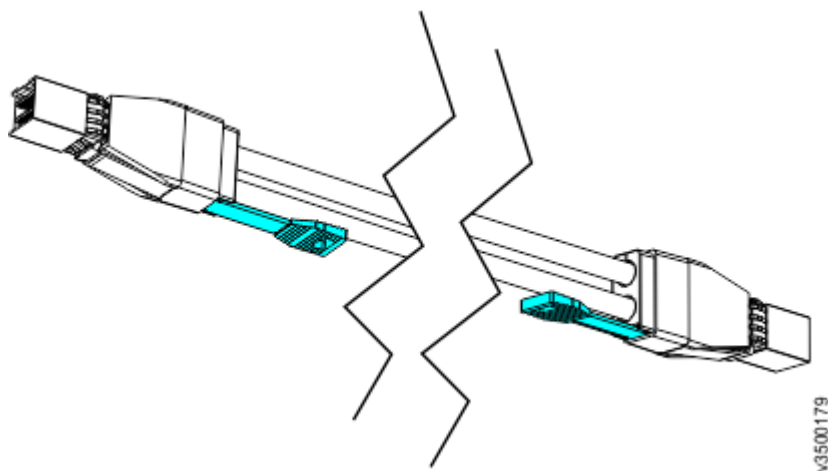

Figure 136. Mini SAS HD to Mini SAS HD cable
- Mini SAS HD to Mini SAS HD (Figure 136 on page 126)